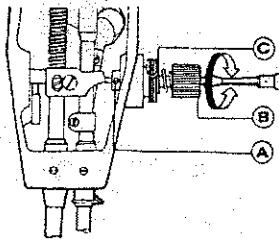

Fig. 13
To adjust the thread take-up spring tension: (Fig. 13), first loosen the set screw (A) then turn the tension stud (B) counter clockwise to decrease the tension of the thread take-up spring (C) to zero. then turn the tension stud (B) clockwise till the spring (C) comes to the notch of the tension regulating bushing, and again turn the tension stud (B) halfway back (counter clockwise), After the adjustment, tighten the set screw (A).